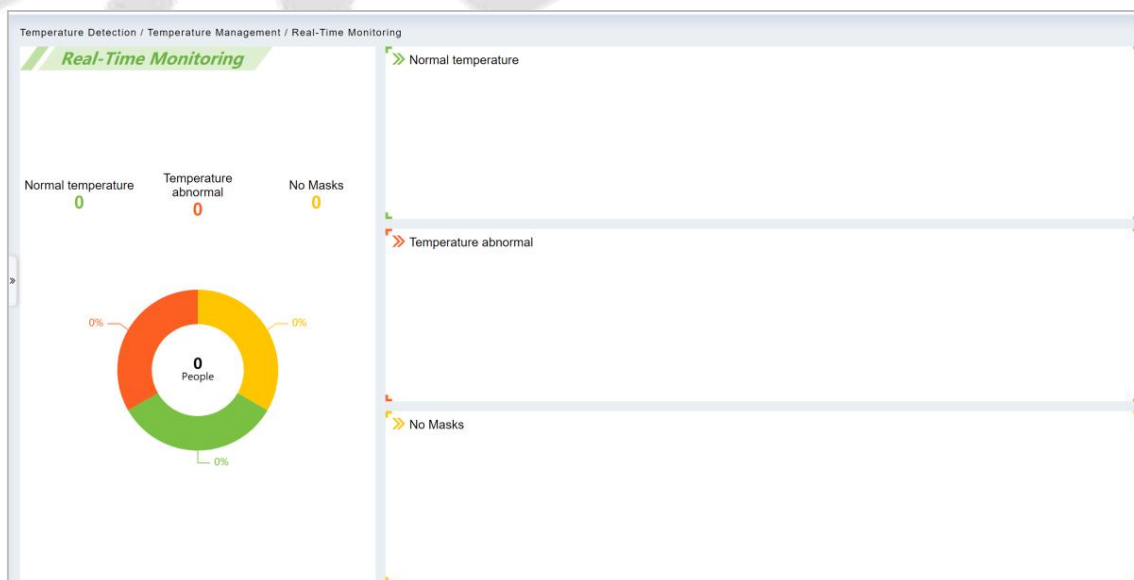

Figure 13-4 Real-Time Monitoring Interface for Epidemic Prevention
Step 3: In the real-time monitoring interface, events are generated, and data are displayed correctly, which represents the completion of epidemic prevention management business configuration, as shown in Figure 13-4.